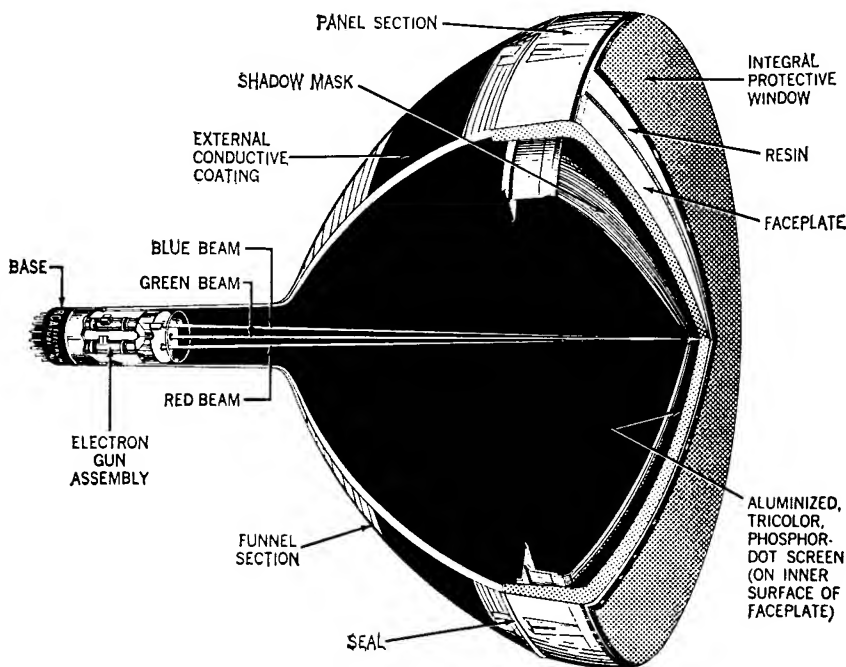

Fig. 10b—Cutaway view of color television picture tube.
**Color television picture tubes** are similar to black-and-white picture tubes, but differ in three major ways. (1) The light-emitting screen is made up of trios
of phosphor dots deposited in an interlaced pattern. Each dot of a trio is capable of emitting light in one of the three primary colors (red, green, or blue). (2) A shadow mask mounted near the screen of the tube contains over 300,000 apertures, one for each of the phosphor dot trios. This mask provides color separation by shadowing two of the three phosphor dots of each trio. (3) Three closely spaced electron guns, built as a unit, provide separate beams for excitation of the three different color-phosphor-dot arrays. Thus it is possible to control the brightness of each of the three colors independently of the other two. Fig. 10b shows a cut-away view of a color television picture tube.